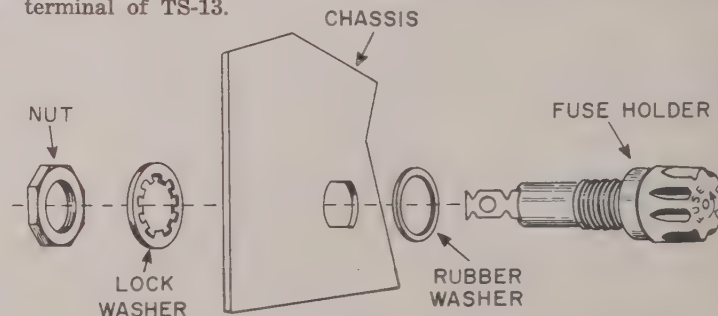

FIGURE 17. FUSEHOLDER MOUNTING
- ✓ Fuse holder for F-1 (panel type). Install as in Figure 17, so the rear terminal is positioned as shown.